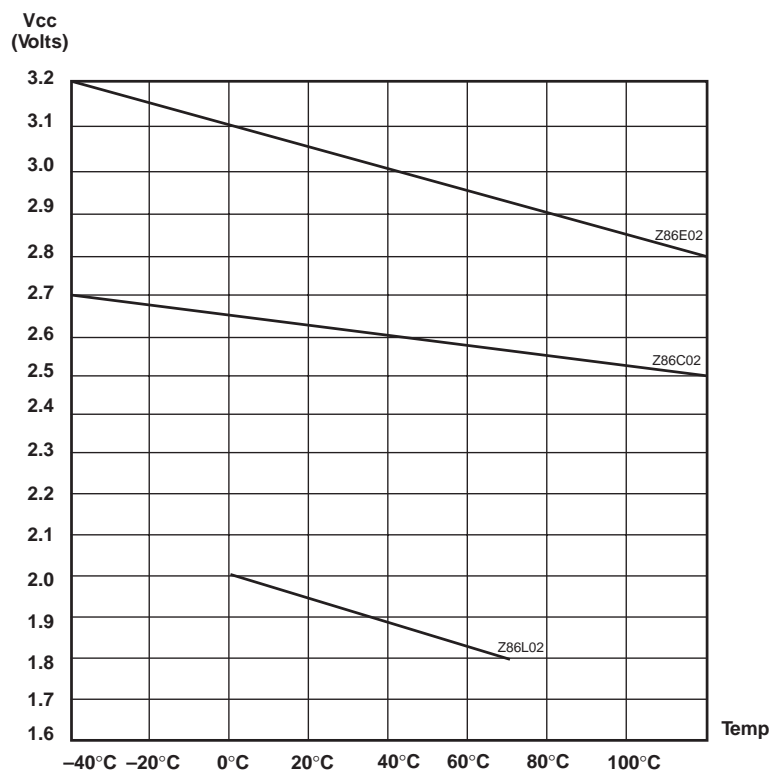

Figure 18. Typical Auto Reset Voltage ( $V_{LV}$ ) vs. Temperature
**Auto Reset Voltage ( $V_{LV}$ ).** The Z8 has an auto-reset built-in. The auto-reset circuit resets the Z8 when it detects the  $V_{CC}$  below  $V_{LV}$ . Figure 18 shows the Auto Reset Voltage versus temperature.